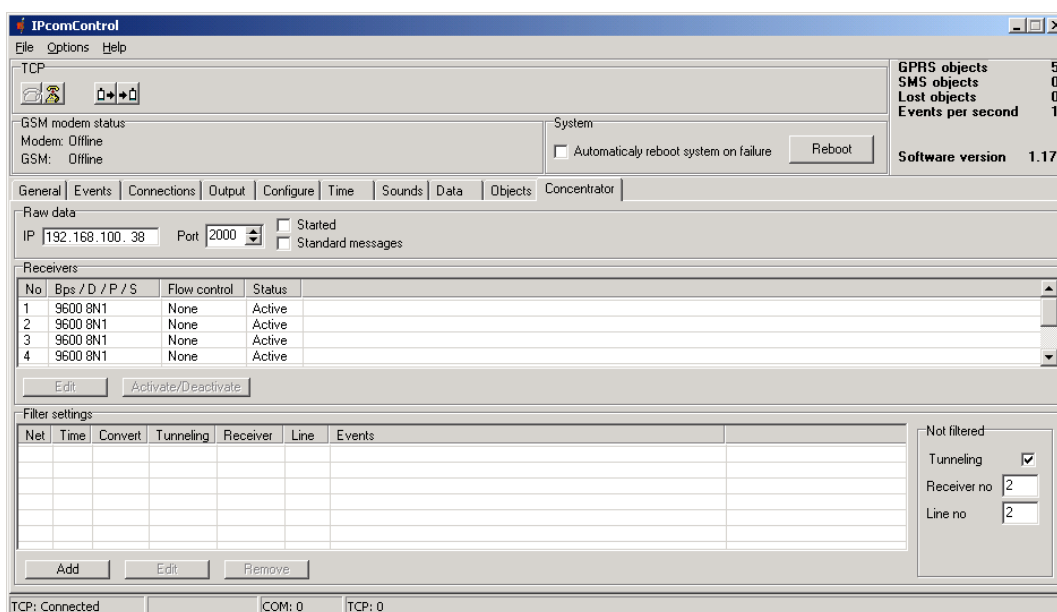

Figure 20.
8.18 In the **Concentrator** tab (Fig. 20) parameters for message filtering can be entered.